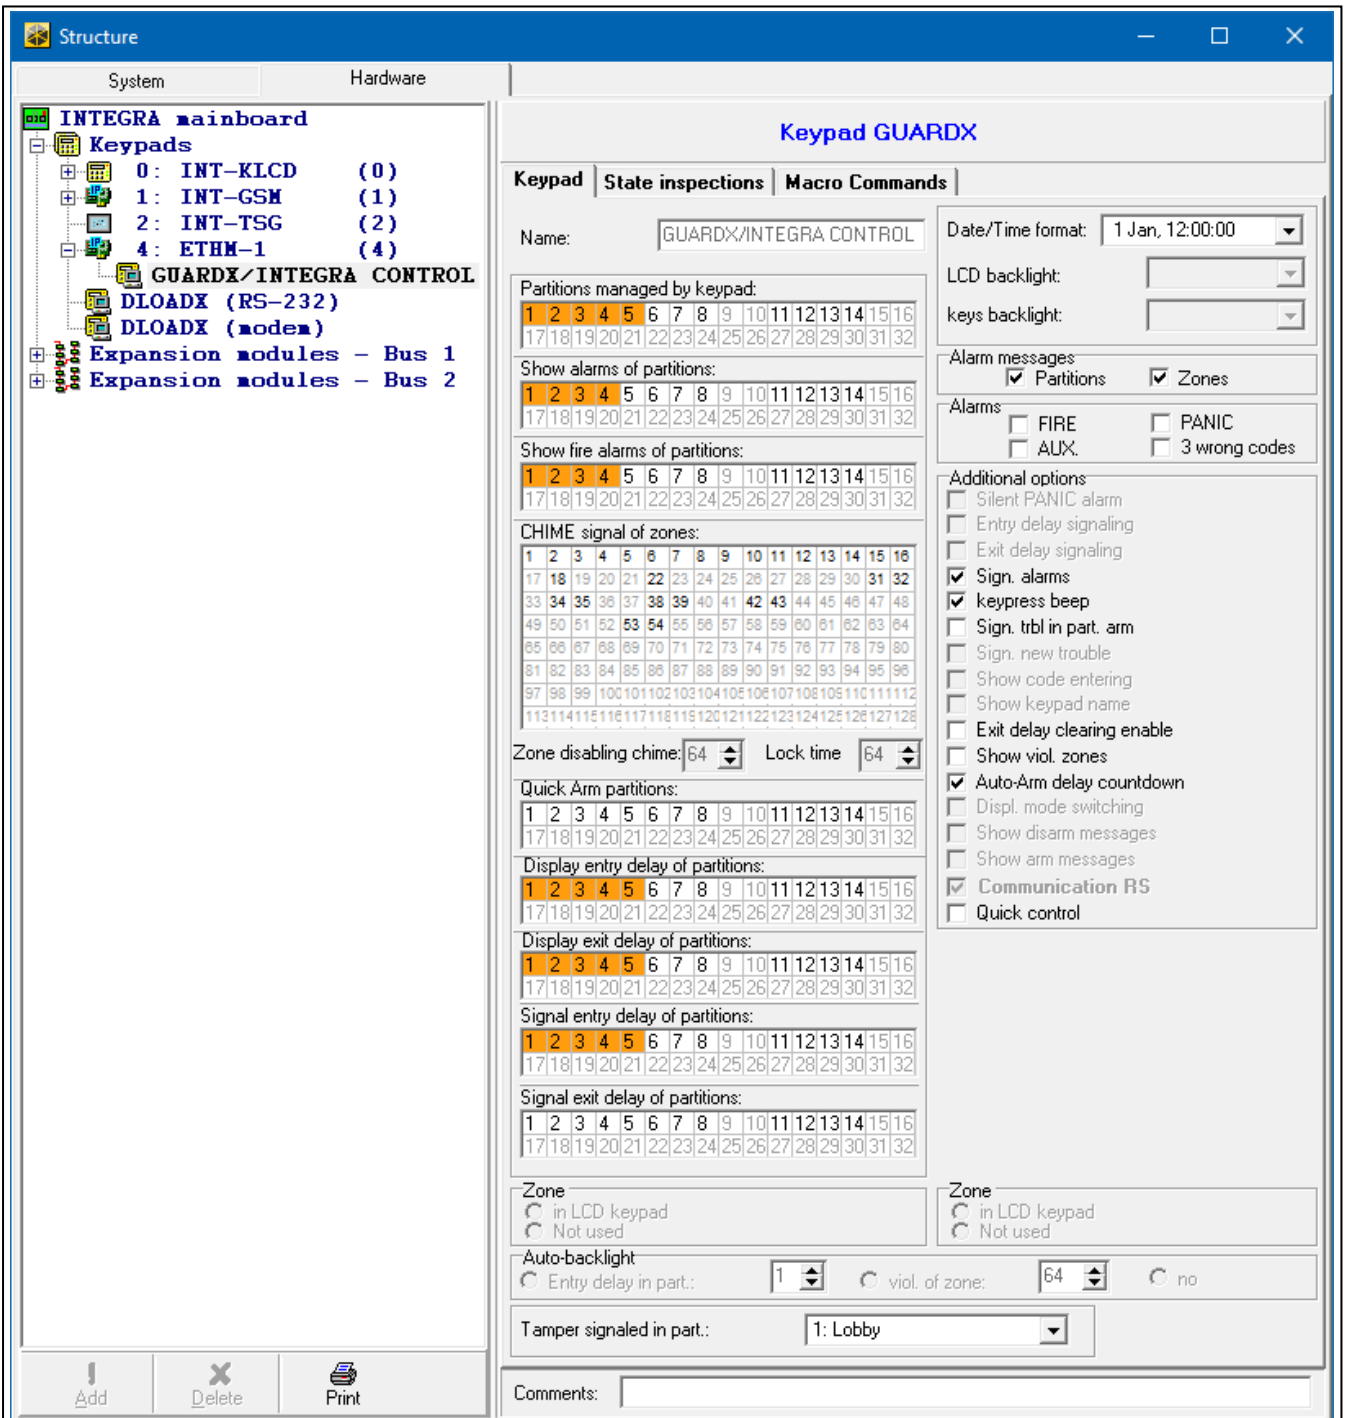

Fig. 9. DLOADX program: parameters and options of the virtual keypad available in GUARDX program, web browser or mobile device.
- DLOADX program: →“Structure” window →“Hardware” tab →“Keypads” branch →[*module name*] branch →“GUARDX/INTEGRA CONTROL” item (Fig. 9).